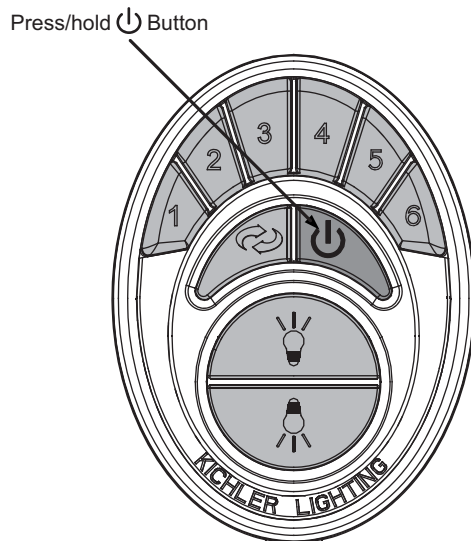

Fig. 21
4. Follow the below steps to set the remote control: The auto learning function will only mandate within 60 seconds when turning the fan's AC power ON. (Figure 21)